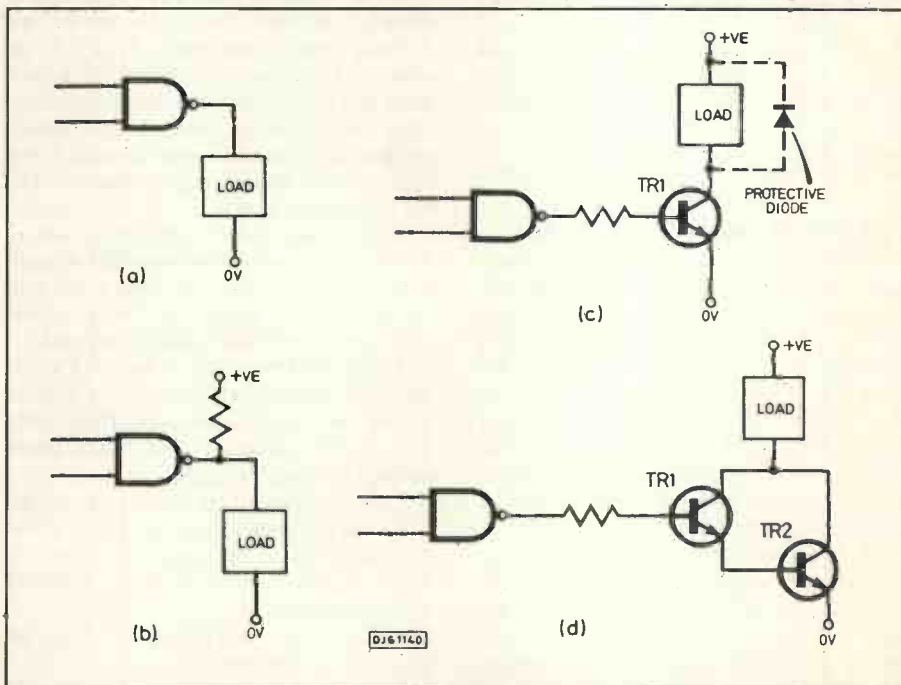

Fig.11. Output interfaces: (a) direct logic device, (b) open-collector output, (c) transistor switch, (d) Darlington switch.
Fig. 11 illustrates some techniques for driving external devices from logic circuits. The simplest form of switching is to drive the device directly from the logic output (a). Only a few milliamps is available from the gate. The led indicator is our most common example of this. Using gates with open oscillator outputs, we can drive lamps and other low-current devices that operate on higher voltages (b).
Another way of switching is to use a relay. Use any of the circuits in Fig. 11, with the relay coil as the load. Apart from their being able to switch loads operating at high voltages (250V or more), an high currents (10A or more), relays are able to switch alternating current, including audio signals. This is something that the transistor switches described above can not do. Some relays can be energised directly from a ttl output, as in Fig. 11a. This type is often available in dil package like an integrated circuit, which makes it very convenient for mounting on the circuit board beside the logic ics. These low-power relays usually have lower voltage and current ratings than the larger types. If you use these, take care not to overload them as sparking may cause the contacts to weld together – and there's no way of getting inside the package to prise them apart!
- Which of the circuits of Fig. 11 would you use for interfacing to: